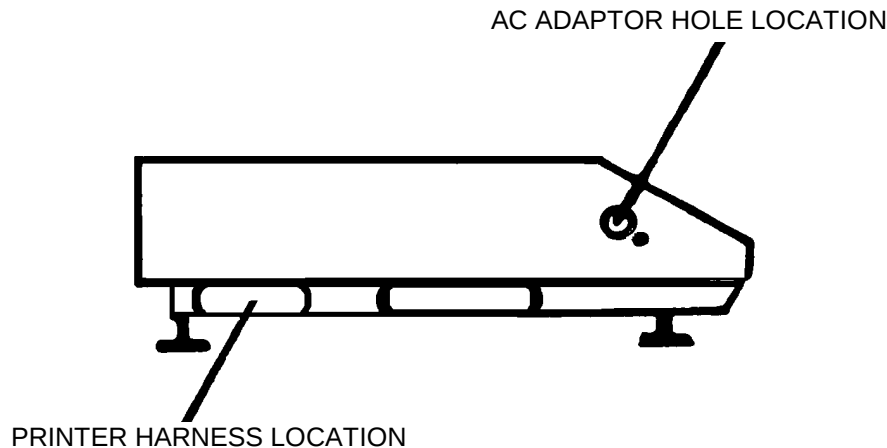

FIGURE 5
1. Unplug the AC adaptor cable from the left side of the 8431 and remove the platter by lifting it vertically off the scale, figure 5.
5. On the left side of the 8431 base, locate the rectangular cover plate toward the rear of the scale. Remove the 2 screws and discard the plate, figure 5.